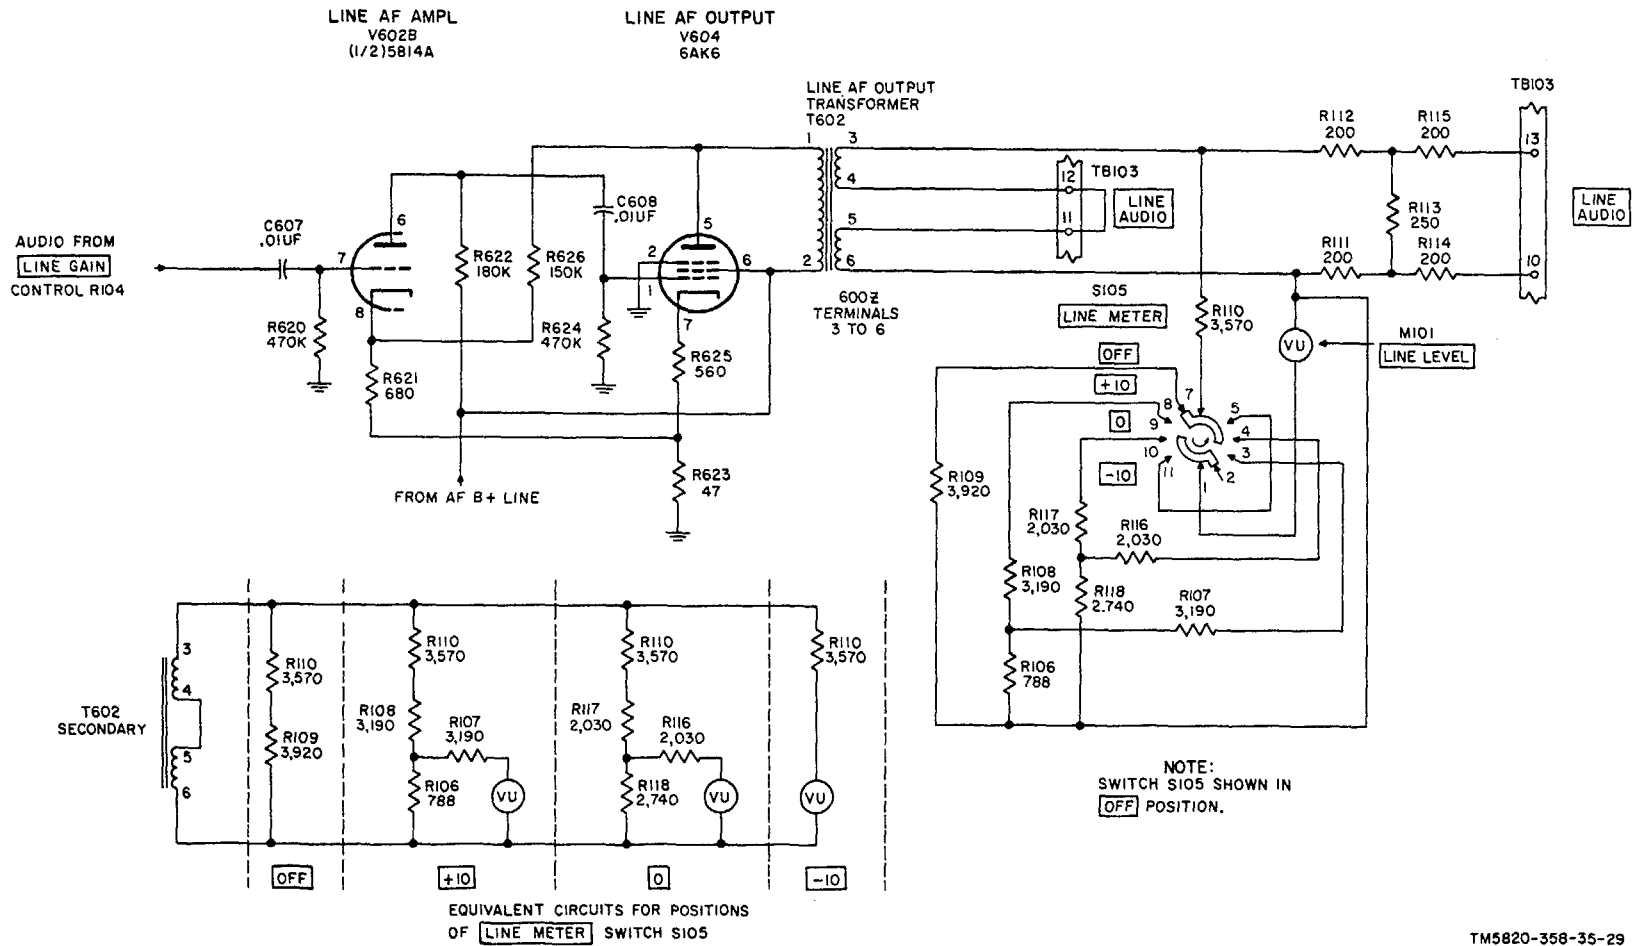

Figure 25, Line audio channel, simplified schematic diagram.
25. Line Audio Channel (fig. 25)
b. The audio signal at T602 of terminal 3 is fed to terminal 7 of one of the two segments of LINE METER switch S105 through resistor R110. This switch has four positions: OFF, +10, 0, and -10. The schematic diagram in the lower left-hand corner of figure 25 shows the equivalent circuit for each position of LINE METER switch S105. When in the OFF position, R109 and R110 load the secondary of T602, and LINE LEVEL meter M101 is out of the circuit. In the +10 position, resistors R106, R108, and R110 are placed across the T602 secondary, and M101, in series with R107, measures the voltage across R106. In the 0 position, a similar circuit combination is used, except that R110, R117, and R118 are in series across T602; and M101, in series with R116, measures the voltage across R118. In the -10 position, LINE LEVEL meter M101 and series connected resistor R110 are placed directly across the secondary winding of T602.